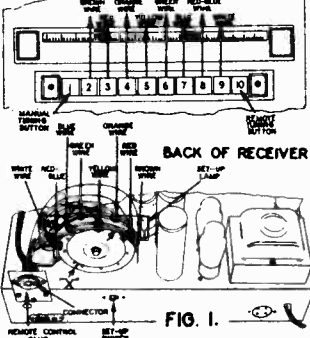

FIG. 1.
since weak stations will generally give poor results. Arrange the list so that the lowest frequency station appears first then the lowest frequency, continuing in this manner until stations are in numerical order. The frequency of your local stations may be obtained from your newspaper or radio call magazine. Only buttons No. 2 to No. 9 are used for automatic tuning. IT IS IMPERATIVE THAT THESE BUTTONS BE SET-UP IN THE FOLLOWING ORDER: Button No. 2 must be set to tune in the station whose frequency is lowest in your list of eight stations. Button No. 3 must be set to tune in the station next higher in frequency. Continue to follow this procedure until Button No. 9 will be set to tune in the station whose frequency is highest in your list. The actual setting up of the buttons is done as follows: 4. Place the small black "set-up switch" button which appears on the back of the chassis, in the right hand position. (See label on back of chassis.) LEAVE THIS SWITCH BUTTON IN THIS POSITION UNTIL ALL BUTTONS HAVE BEEN SET UP. 5. Push in the "Manual" button and use the tuning knob to tune in the station (lowest frequency on your list) that you have selected for Button No. 2. Be sure to tune in station correctly using the "Tuning Eye". The correct tuning point is indicated when the two open ends of the inverted "V" shaped shadow in the "Tuning Eye" are closest together. 6. PUSH IN BUTTON No. 2. The lamp mounted on the back of the chassis just to the right of the selector drum will be illuminated when the button is depressed. (See Fig. 1.) NOTE: If the lamp does not light up when the switch is in this position, it indicates that Button No. 2 is already correctly set to the desired station and no further adjustment need be made for this button. 7. Locate the contactor corresponding to Button No. 2. This contactor has a BROWN lead attached to it, (see Fig. 1 or label on back of the chassis for the color of the wire associated with each button) and is the extreme right end contact on the inner circle of the semi-circular bridge (not more than one-half turn). Loosen the knurled nut on this contactor to the point indicated by the white arrowhead on the side of the round drum. When this point is reached, the lamp will go out. If the contactor is moved farther than the point at which the lamp extinguishes, the lamp will again be illuminated. Move the contactor back and forth between the two points. Then tighten the knurled nut as tightly as possible, with the finger. The lamp should still be out after tightening the contactor. If it is not, the contactor must be reset. 8. The set-up for Button No. 2 is now complete. 9. Set-up the remaining seven buttons in a similar manner. The contactors for the buttons can be identified as follows: (See Fig. 1 or label on back of chassis.)
2. SYMPTOM: When either the second or third button from the left or right end of the Magic Keyboard is depressed the dial pointer will travel to the end of the dial and the motor will hum. REMEDY: This is caused by misalignment of contactor drum and gang condenser. Release set screw holding drum in place on shaft, and close the gang condenser completely. Place a slider contactor at each extremity of the slider bridge. Now set the contactor drum so that the division between the two sections (POINT "X" IN FIG. 1) is just below the contactor which you set at the extreme left end of the bridge (viewed from rear). The contactor on the extreme right of the bridge will now fall on point "X" just above the dead spot indicated by the white arrow on the drum. NOTE: The contactor on each extreme end must contact the same section of the contactor drum or the drum is incorrectly set. After the setting has been performed retighten the set screw.
3. SYMPTOM: Tuner fails to operate. REMEDY: (1) The small black set-up switch on the back of the tuner must be in the left hand position. (2) Overload thermostat on motor will open when temperature of motor reaches dangerous value (approx. 95° C). Thermostat will close automatically when motor cools down.